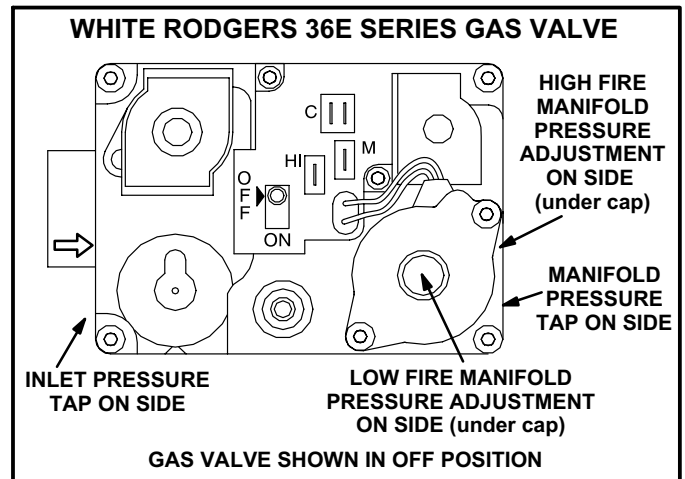

FIGURE 20
Gas Valve Operation (Figures 20 and 21)
- 6 - *White Rodgers 36E Gas Valve* - Move gas valve control switch to **OFF**. See figure 20.
- 8 - *White Rodgers 36E Gas Valve* - Move gas valve control switch to **ON**. See figure 20.
- After the line pressure has been checked and adjusted, check the low fire and high fire manifold pressures. See figures 20 and 21 for the location of the manifold pressure adjustment screws. Low and high fire manifold pressures are given in table 15. A natural gas to LP/propane gas changeover kit is required to convert the unit.